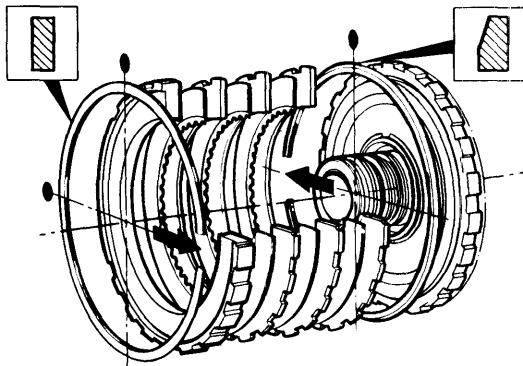

Fig. 7-131 Snap Ring Installation
(10) Install center support-to-case retaining snap ring, **with beveled side of ring facing upward**. Locate snap ring end gap adjacent to band anchor pin to secure center support in case. Be sure ring is properly seated in case (fig. 7-131).
(14) Lubricate two flat and one waved steel plates and three composition-faced intermediate clutch plates with transmission fluid. Install plates starting with waved steel plate and alternating composition-faced and steel plates.
(15) Install intermediate clutch backing plate, with ridge facing upward or forward, and install backing plate-to-case snap ring. **This snap ring is flat on both sides. Locate gap of snap ring opposite band anchor pin** (fig. 7-131).